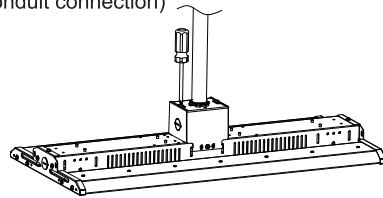

Figure 4
- Step4 Lock side brackets with screw driver (Figure 4).